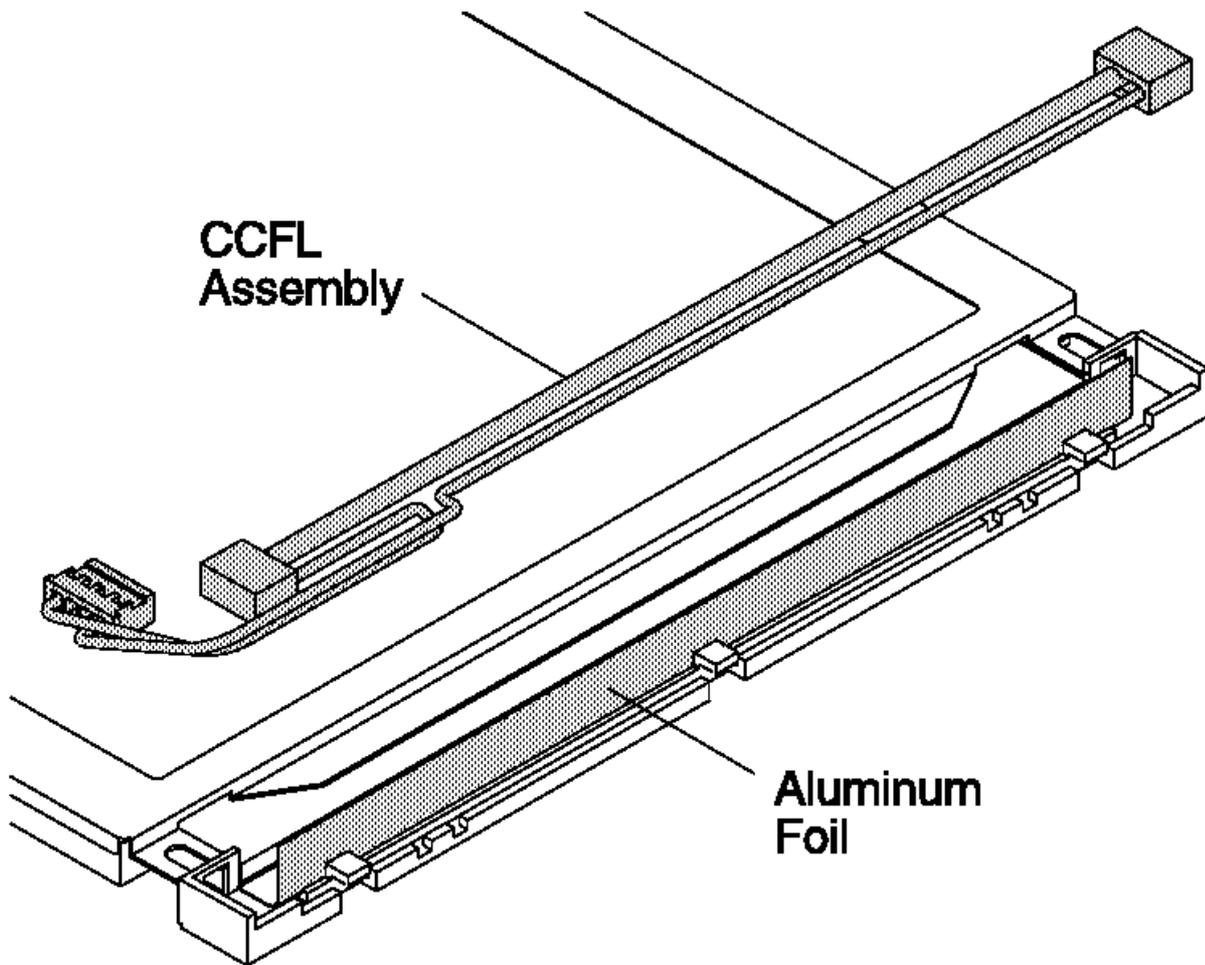

Figure 3-13. Removing the CCFL Assembly
5. Carefully lift the CCFL assembly out. See Figure 3-13.